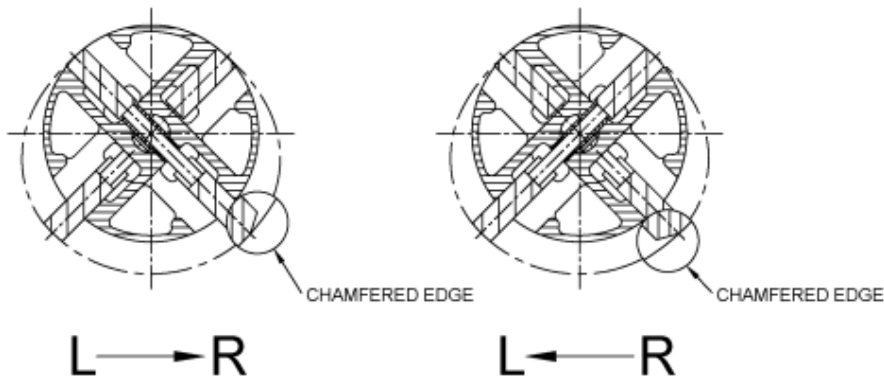

Figure 32 – Chamfered edge of the vanes in relation to the flow direction
1. Record how the vanes are installed in the rotor as indicated in Figure 32.